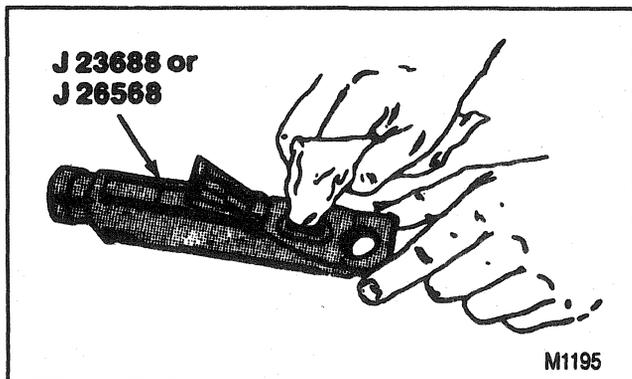

Figure 7—Cleaning the Coolant Tester
- Before each use, swing back the plastic cover at the slanted end of the tester, exposing the measuring window and the bottom of the plastic cover (Figure 7).